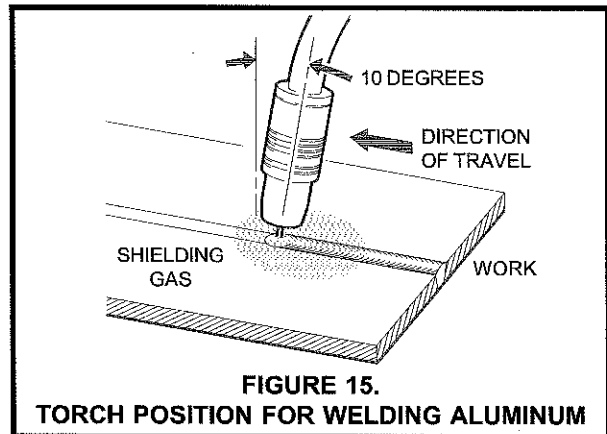

FIGURE 15.
3. Bring the torch nozzle to 1/2 to 5/8 inch from the workpiece. The recommended position of the torch and direction of travel are shown in Figure 15.